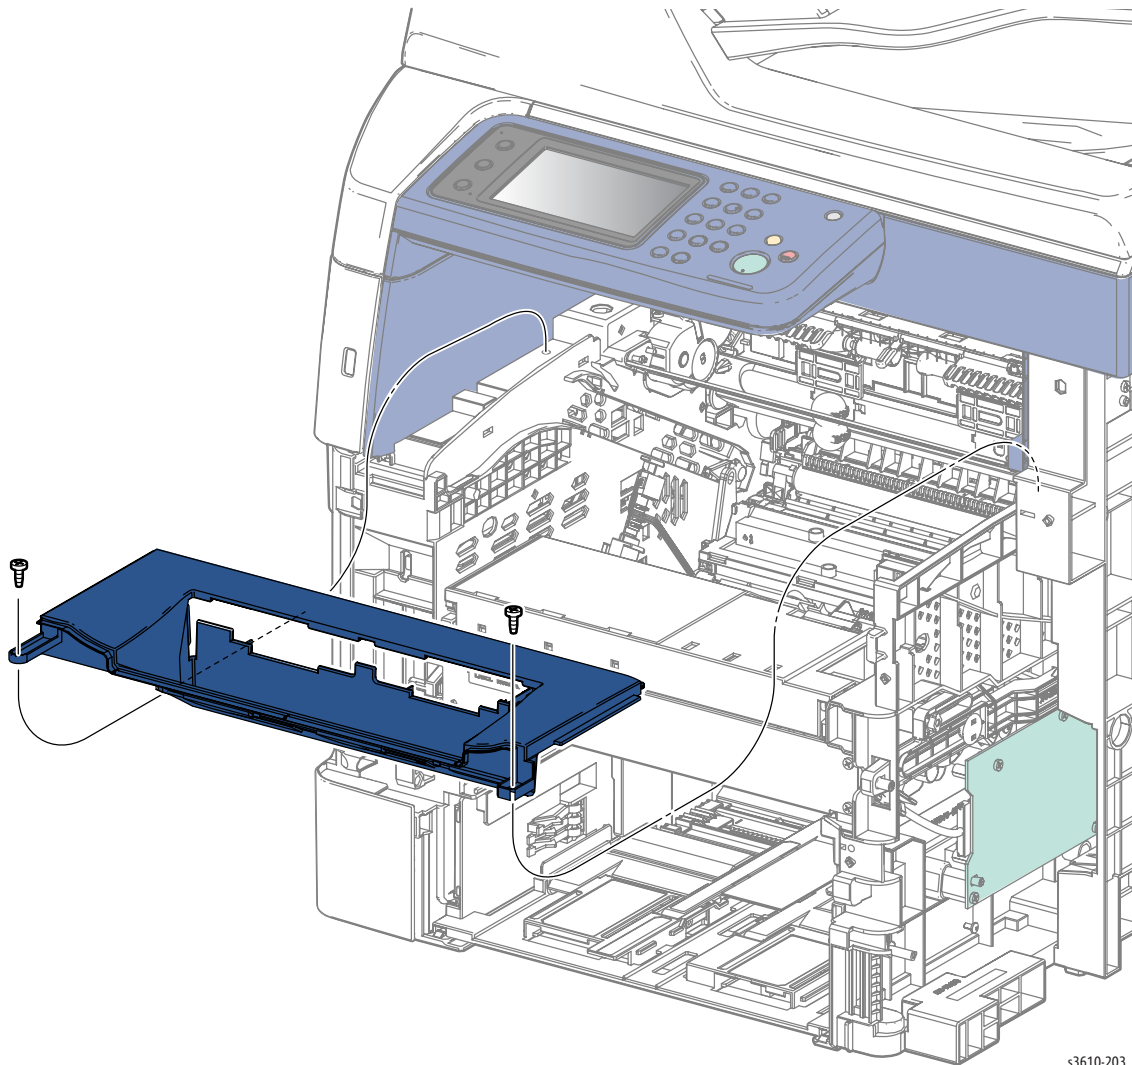

Figure 1
2. Remove 2 screws (silver, tapping, 8mm) to remove the Top Cover Assembly. (Figure 1)